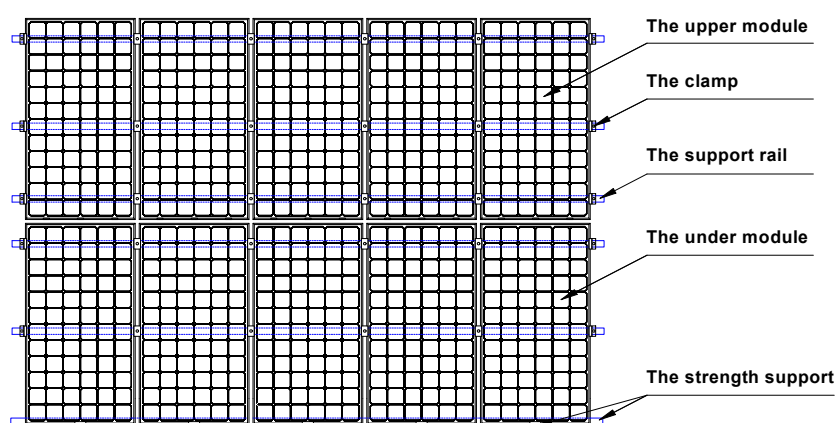

FIG 3 Schematic diagram of reinforcement mounting of module
**6.2.1.3** For the roof system installed in the area with relatively heavy snowfall or snow cover in the meteorological records, the installer shall reinforce the supporting system at the lower frame of the module, in order to prevent the lower frame from being pressed and damaged by the falling snow or freezing of the melt ed snow. LN solar suggests selecting the support reinforcing mechanism shown in FIG 3.